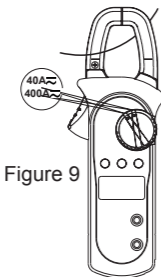

Figure 9
G. Measuring DC/AC Current (See Figure 9)